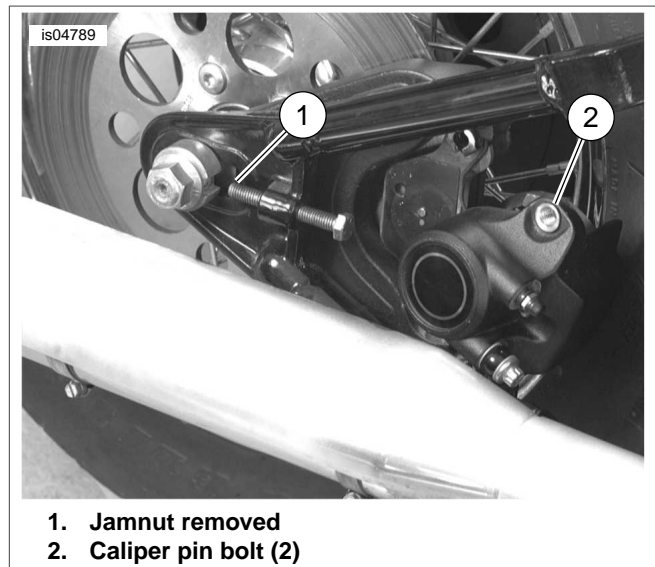

Figure 3. Removing Brake Caliper and Jamnut
4. **1999 and earlier models:** See Figure 3. If the axle adjuster screw needs to be replaced, it will be necessary to remove the caliper. On the right side (brake caliper side), use a T40 TORX drive to remove the two pin bolts (2) from caliper. Remove caliper by gently rocking caliper back and forth to compress caliper piston then carefully slide caliper off brake disc.